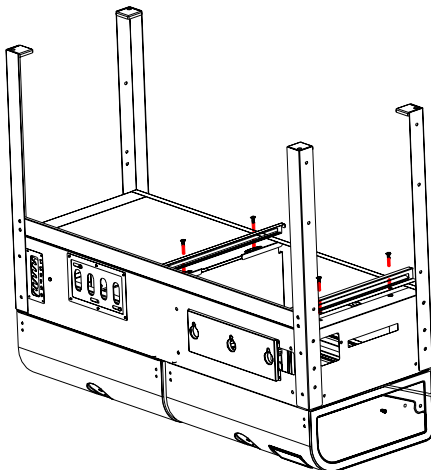

Fig. 5
*Locate:* (2) Gas Grill Bottom Tray Support Brackets, (4) M6x15 Bolts
Refer to Fig. 5 and attach the Brackets as shown using (4) M6x15 bolts.